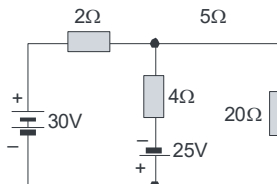

FIG. 1.147
11. Using Thevenin's theorem, determine the current in 20 ohm resistor of the network shown in fig. 1.147. (Ans. 0.433 A)